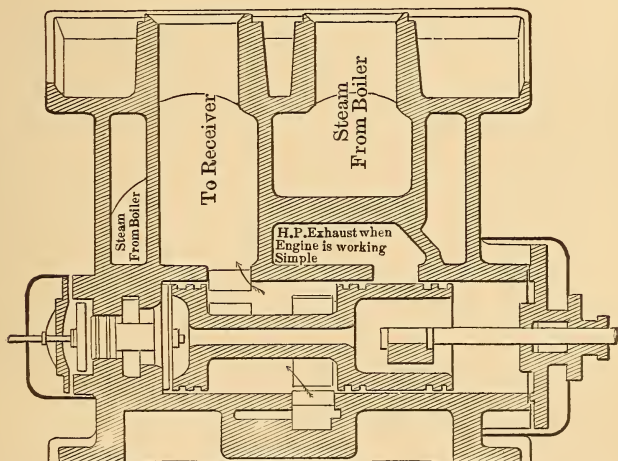

Fig. 217. Pittsburgh (Colvin-Wrightman) Compound, Working Compound.
A. In the forward position, as shown in figure 217, so as to cut off live steam from the receiver and the exhaust-pipe from the high-pressure cylinder to the independent exhaust-nozzle, and send the high-pressure exhaust into the receiver.
which admits pressure to the reversing-appliance, and the intercepting valve is moved to the position shown by figure 217. The dropping back of the lever to full stroke again changes the valve, and the engine is thrown into simple as before.